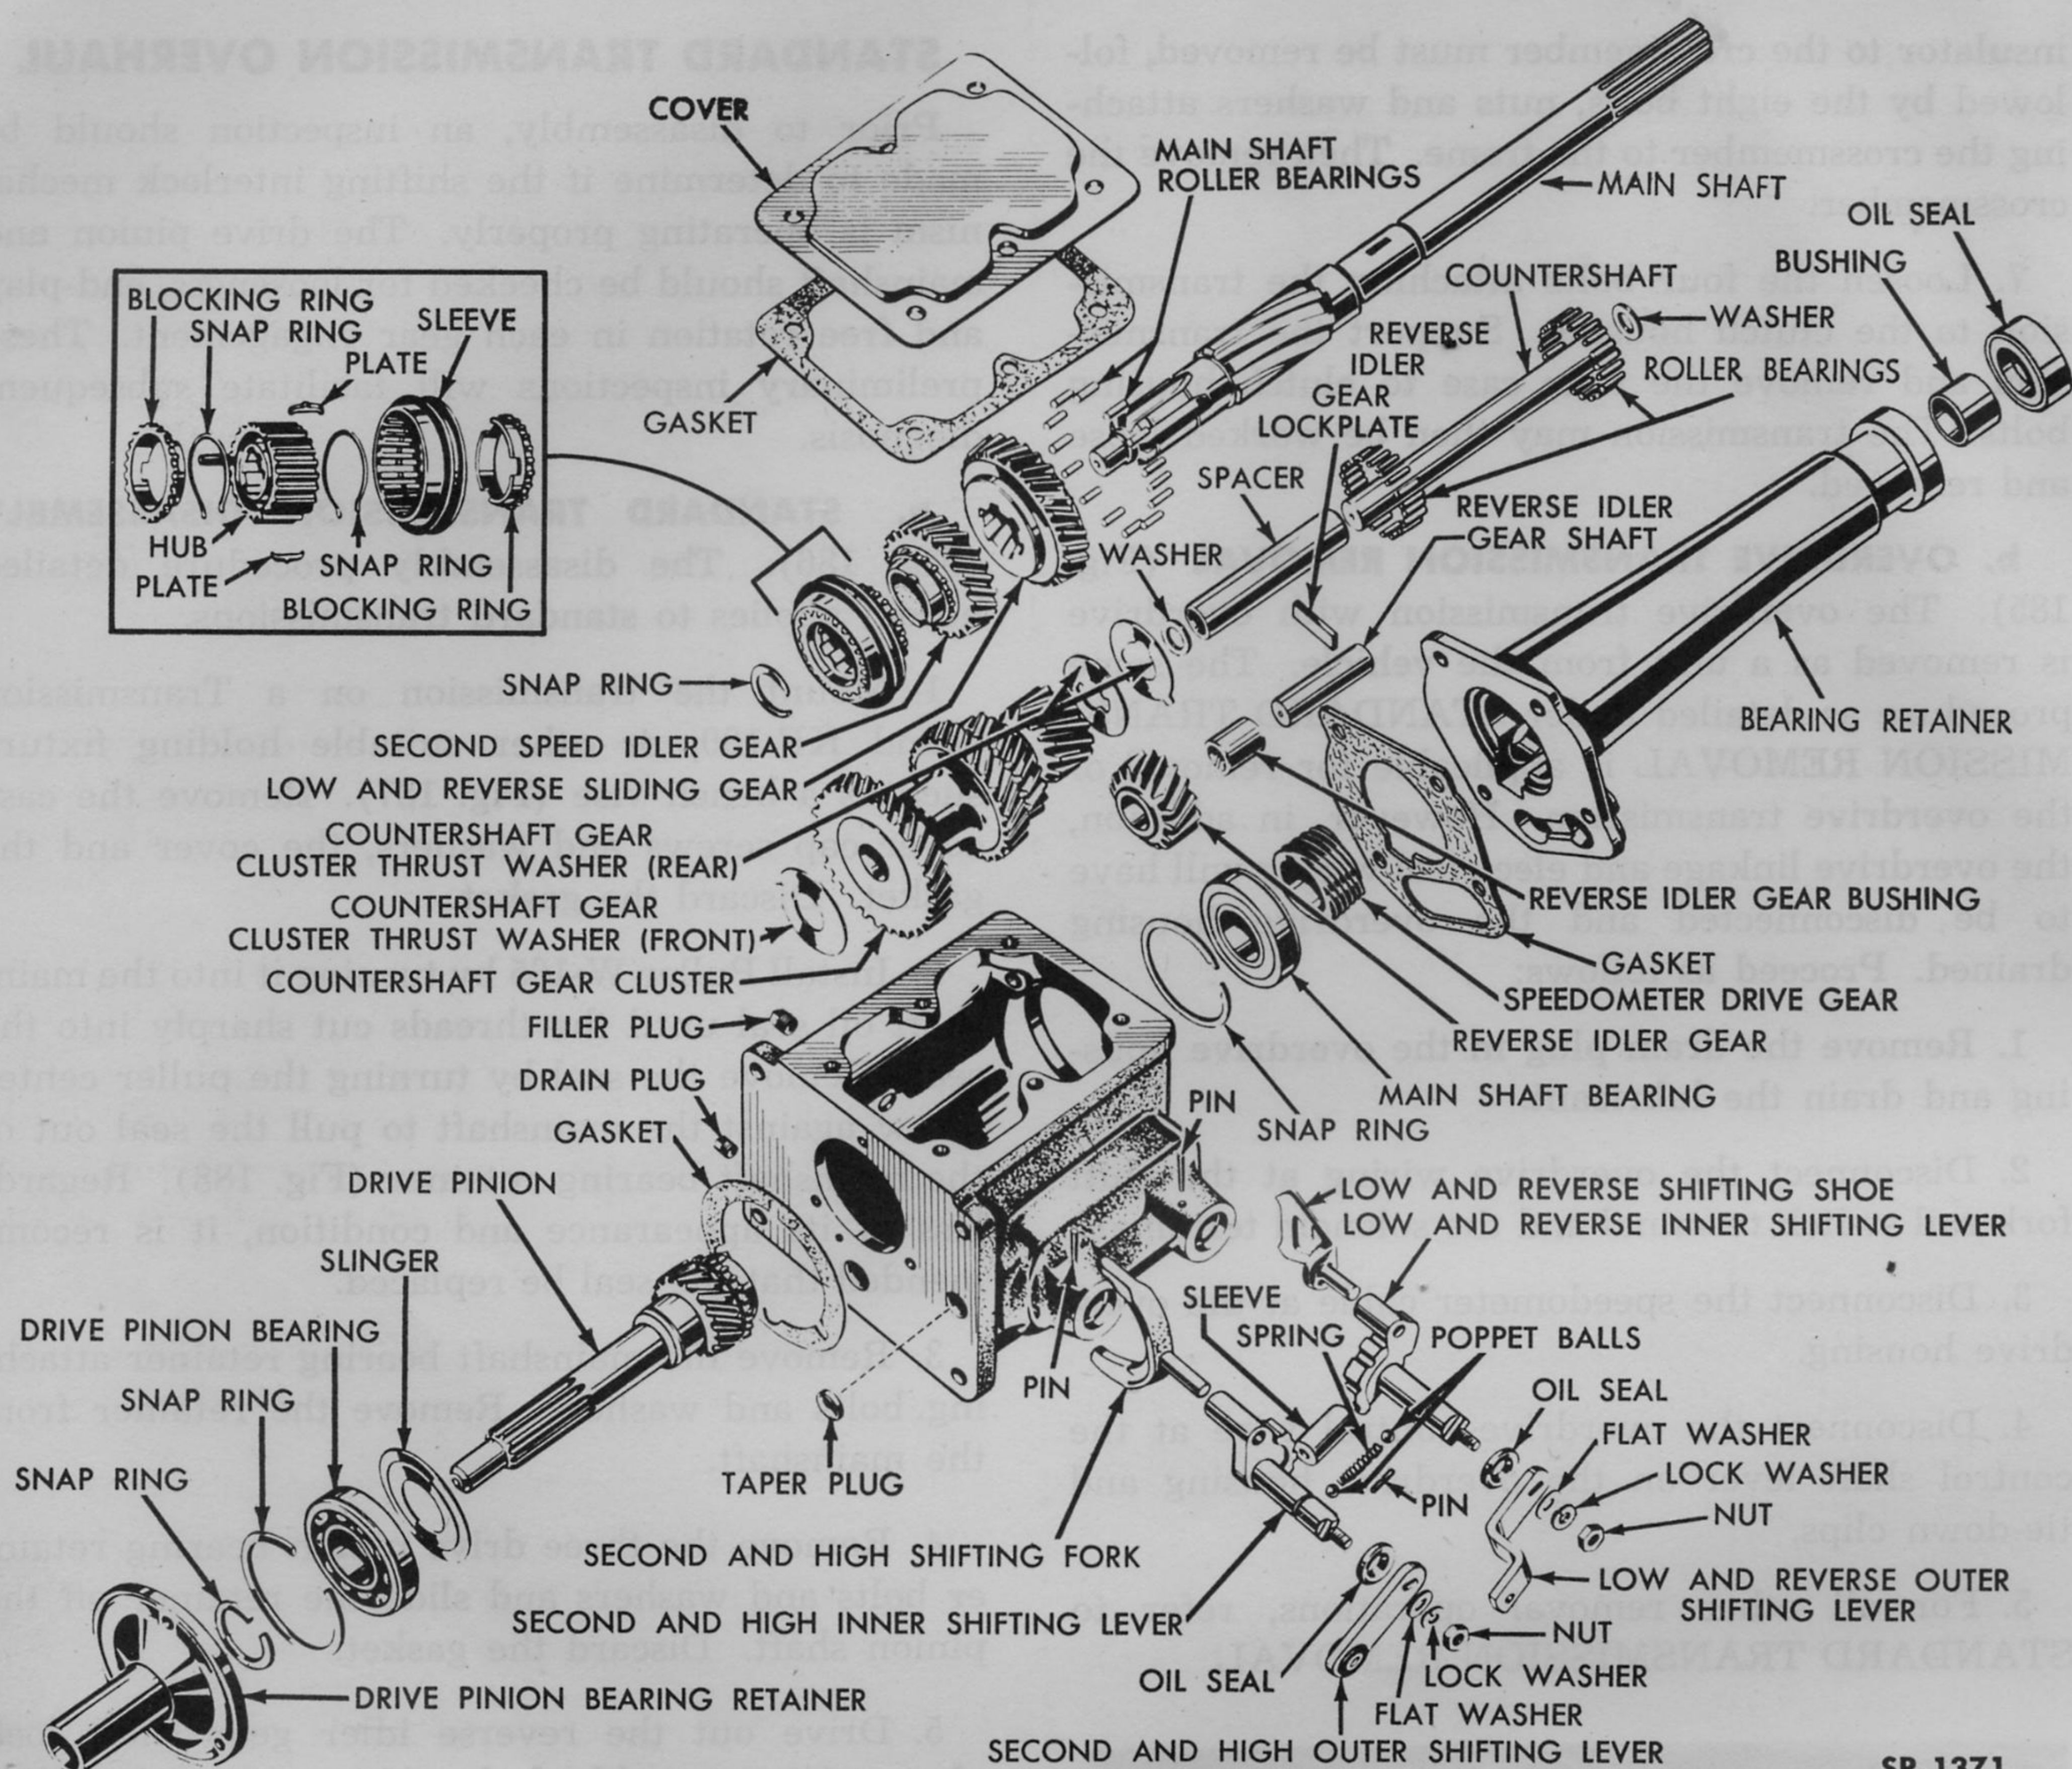

Fig. 186—Standard Transmission—Exploded View
a. STANDARD TRANSMISSION DISASSEMBLY (Fig. 186). The disassembly procedure detailed herein applies to standard transmissions.
13. Remove the second and high speed inner shifting lever and shaft from inside the case (Fig. 186). As it is being withdrawn from the case the shifting lever spring loaded poppet ball will disengage from the ramp of the lever and shaft and fall out. Remove the shift lever poppet ball spring, pin, sleeve and the balls from the transmission case. Remove the first speed and reverse inner shifting lever and shaft from the case.
The gears must be positioned in the transmission case so that the long or offset end of the gear faces toward the front of the case or in the forward position. Refer to Fig. 186.